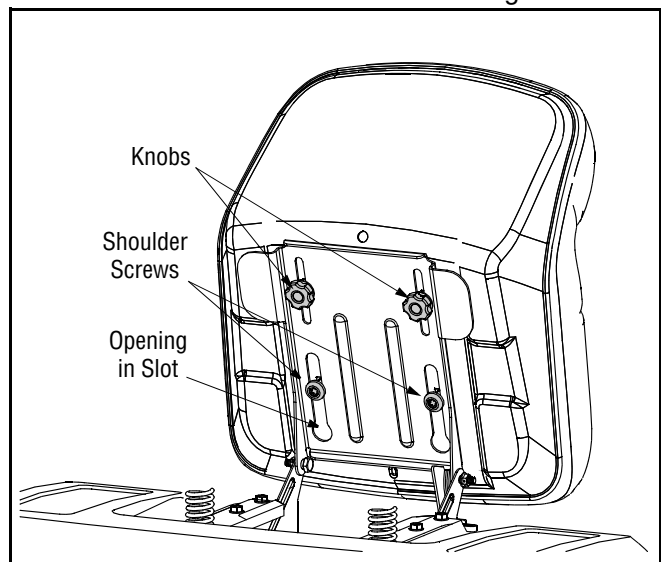

Figure 2
1. Position the shoulder screws (found on the base of the seat) inside the slot openings in the seat pivot bracket. Figure 2.
3. Select desired position for the seat, and secure with the two knobs removed earlier. See Figure 2.